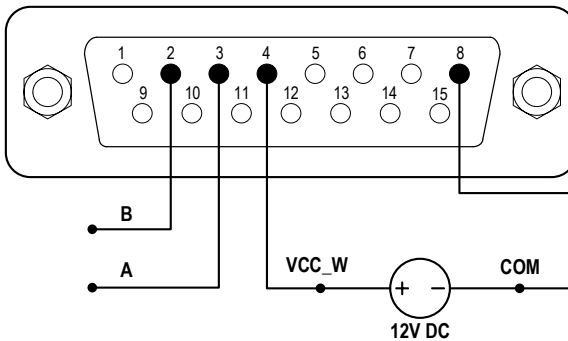
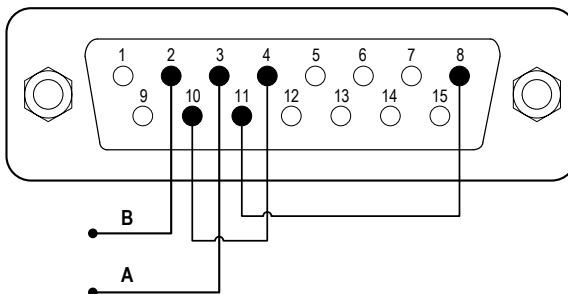

Figure 44 Control Start/Stop with an External 12V Power Source
Figure 45 Control Start/Stop with an Internal 12V Power Source
- 1) Power off the pump. Connect the DB15 connector according to the wiring diagrams shown in Figure 44 or Figure 45, and connect it to the DB15 port at the rear of the pump.